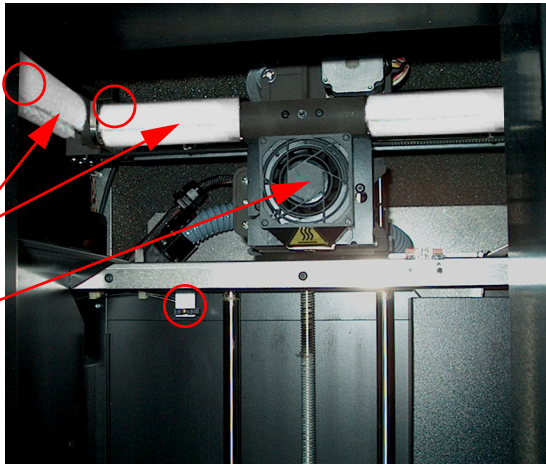

Figure 2: Foam tubes isolating the extrusion head from the Z-axis frame
Remove the foam tubes that isolate the extrusion head from the frame (see Figure 2). The system will be damaged if powered on with the foam tubes in place.
Be careful not to damage the rod sensors when removing the foam tubes (see Figure 2).
8. Remove the foam tubes that isolate the extrusion head from the frame (see Figure 2).
Remove the foam tubes that isolate the extrusion head from the frame (see Figure 2 on page 17). The system will be damaged if powered on with the foam tubes in place.